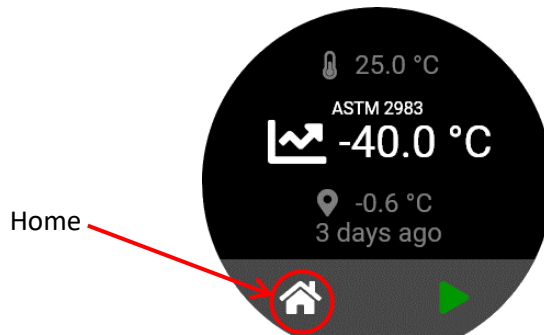

Figure 64: Press Home Button on Base Unit
5. Press the home button on the Base Unit to go to the main menu. See Figure 64.